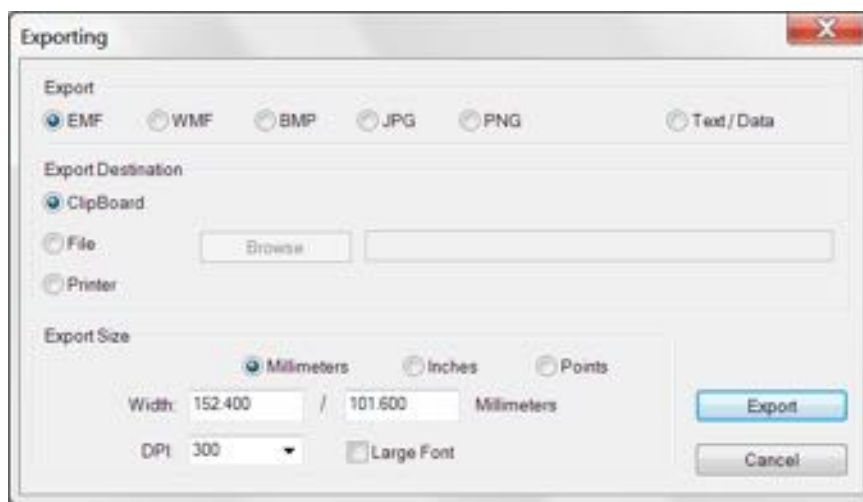

Figure 7-75: Exporting Dialog Box
2. In the **Exporting** dialog box (see Figure 7-75), select the export options and click **Export**.